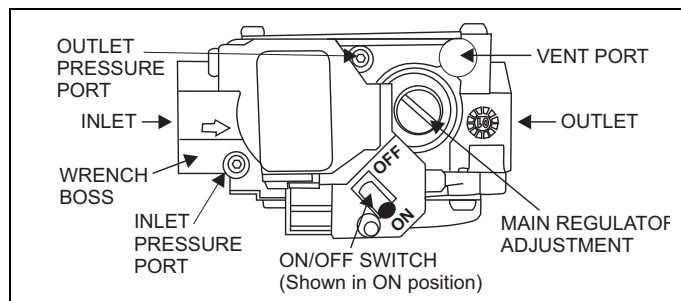

FIGURE 37: Gas Valve
Inlet and manifold gas pressure may be measured by connecting the "U" tube manometer to the gas valve with a piece of tubing. Follow the appropriate section in the instructions below. Refer to Figure 37 for a drawing of the locations of the pressure ports on the gas valve.
1. Refer to Figure 37 for location of pressure regulator adjustment cap and adjustment screws on main gas valve.